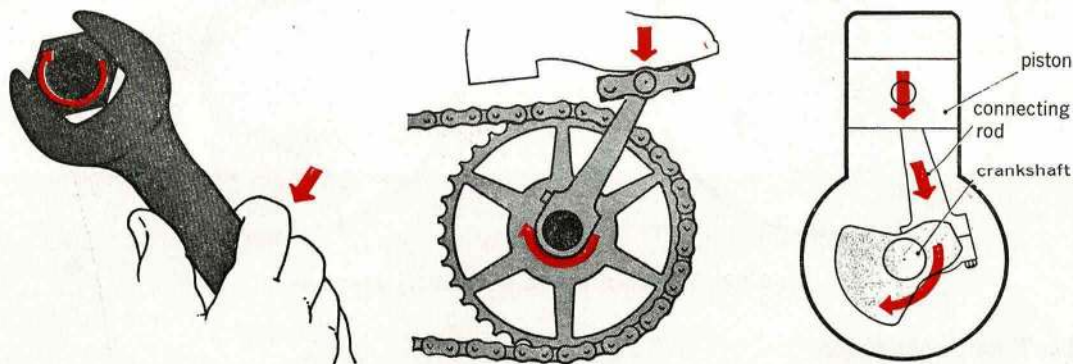

Fig 1.1.1 Conversion of reciprocating motion to rotary motion
2. The purpose of a piston engine is to convert heat energy into mechanical energy. When the heat energy is applied inside the engine, we call the engine an internal combustion engine (ICE). If the heat is applied from outside sources, *eg* a steam locomotive, we call this an external combustion engine. The heat energy is supplied by igniting a combustible mixture of fuel and air inside a cylinder; this, in turn, forces a piston inside the cylinder downwards. The piston is connected to a crankshaft by a connecting rod which, in turn, is attached to a propeller shaft, sometimes through a reduction gear. This is the mechanical means of converting reciprocating motion (upwards and downwards movement) into rotary motion (circular). This conversion is illustrated at Fig 1.1.1.